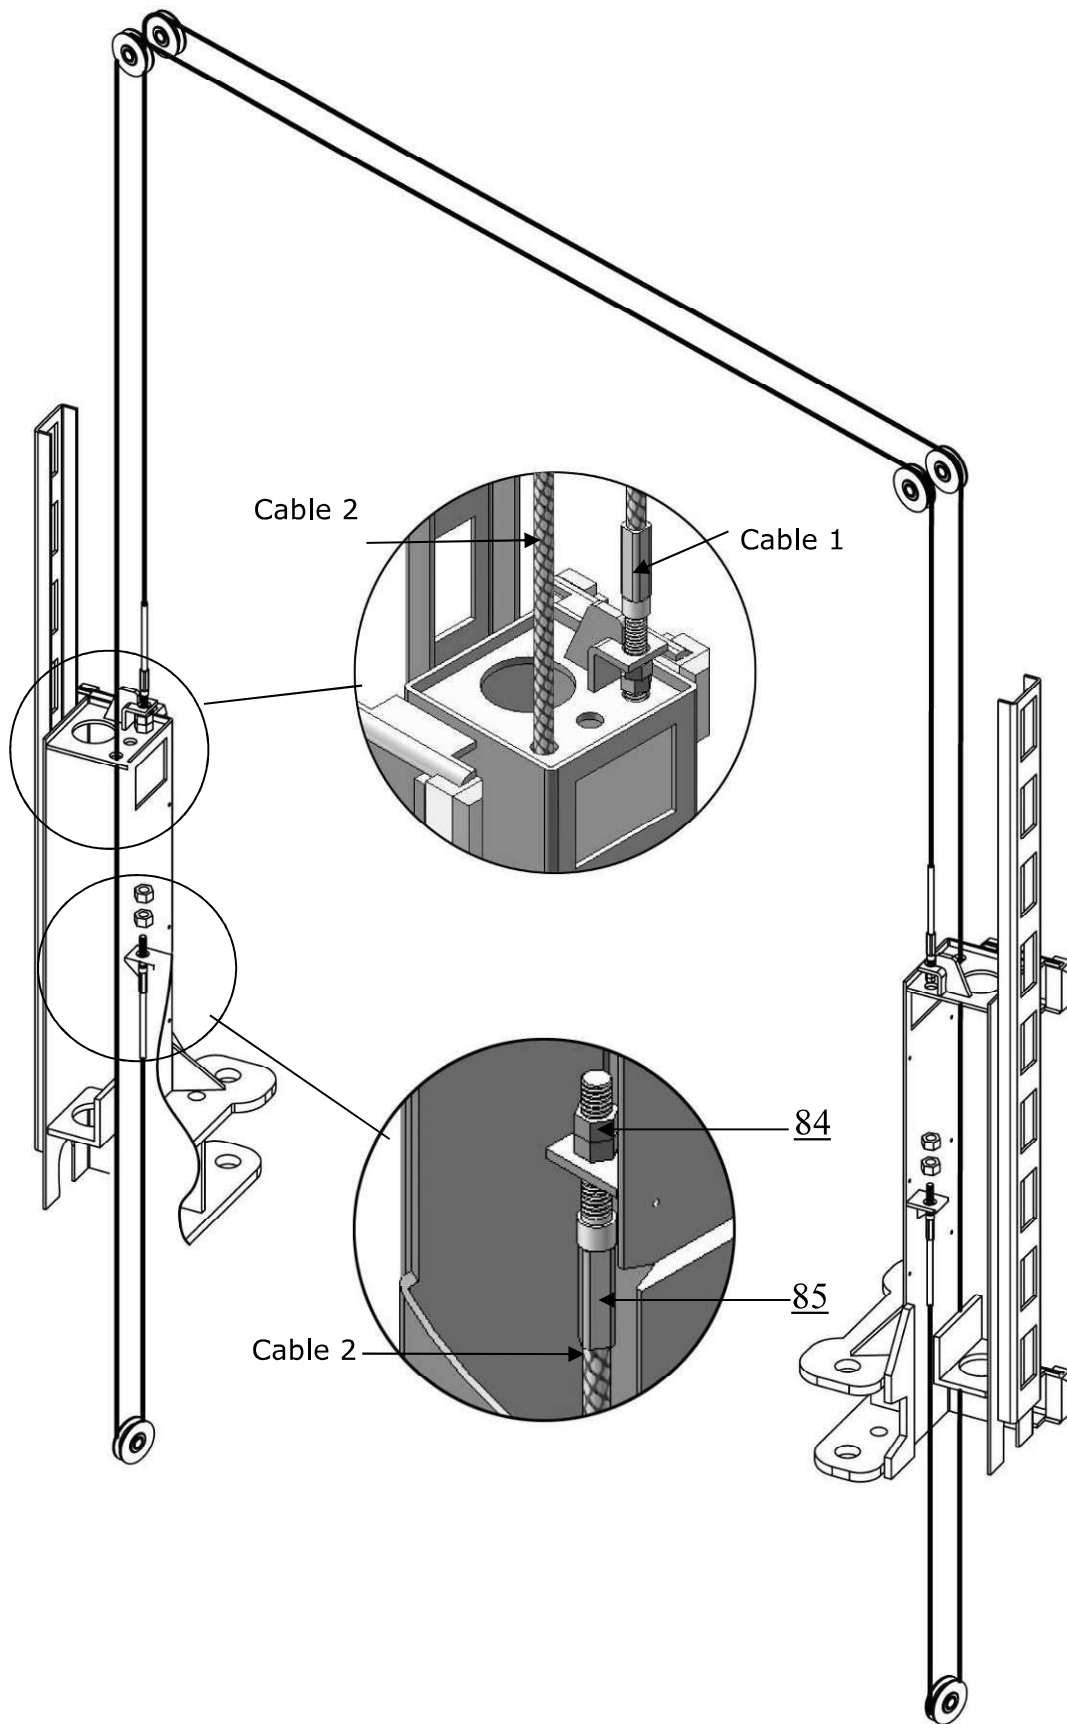

Fig. 25
2.2 Connecting cable for high setting (See Fig. 25).